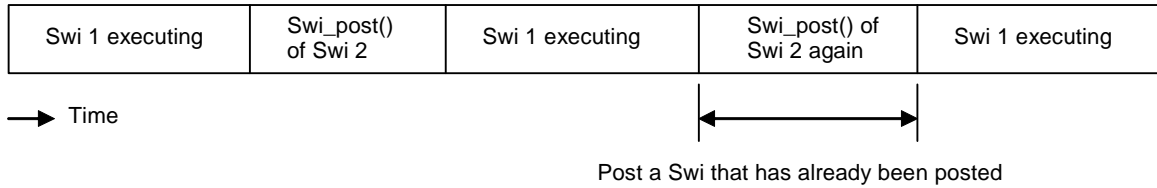

Figure C-3 Post of Software Interrupt Again
- ❑ **Post software interrupt again.** This case corresponds to a call to Swi_post() of a Swi that has already been posted but hasn't started running as it was posted by a higher-priority Swi. Figure C-3 shows this case. Higher-priority Swi1 posts lower-priority Swi2 twice. The cycle count being measured corresponds to that of second post of Swi2.